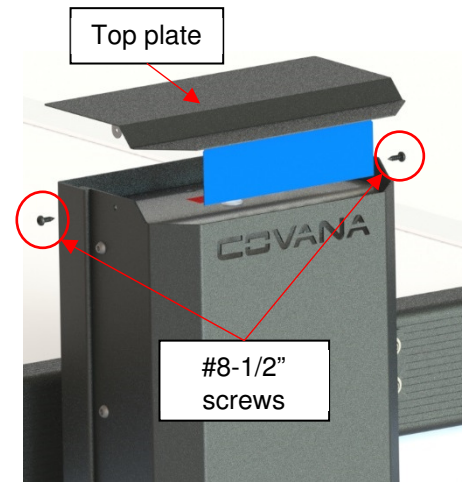

Figure 21
- 4) Remove the two top plates by unscrewing the two #8-1/2" Robertson screws per post assemblies. (Figure 21) Do not discard these screws.
- 16) Lower the system until it is approx. 1" (2.54 cm) from the hot tub and replace the top plates by screwing the 2 #8-1/2" Robertson screws per posts. (Figure 21)